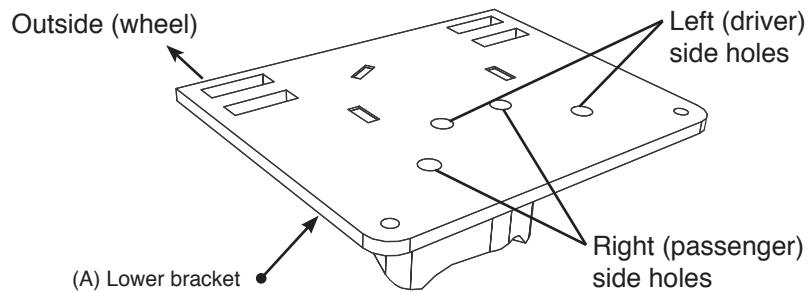

fig. 5
If you have a fifth wheel hitch that does not have a plate running alongside the full length of the frame (these will have an “L” bracket forward and behind the axle leaving the middle frame open) use the 1/2-13 x 2.00” Hex Cap Screw (HH) with a flat washer (R) through the slot in the side of the frame, then through another flat washer (R) and finally through the upper brace. Cap with a flat washer (R) and a 1/2-13 nyloc nut (X) (fig. 5). Leave loose at this time.
Insert a 1/2”-13 x 3.00” hex cap screw (O) with a flat washer (R) through the fifth wheel plate previously drilled, the frame, then through another flat washer (R) and finally the upper brace. Cap with a flat washer (R) and a 1/2”-13 nyloc nut (X) (fig. 5). Leave loose at this time.
2. Install the swivel elbow fitting (Z) into the top of the bellows finger tight. Tighten the swivel fitting one and a half turns.
3. The lower bracket (A) has two sets of bellows mounting holes. Using the corresponding holes in the lower bracket designated (fig. 5), attach the bellows to the brackets using the 3/8" flat washers (W), lock washers (U), and 3/8"-24 x 7/8" hex head cap screws (N). Torque both mounting screws to 20 ft/lbs.